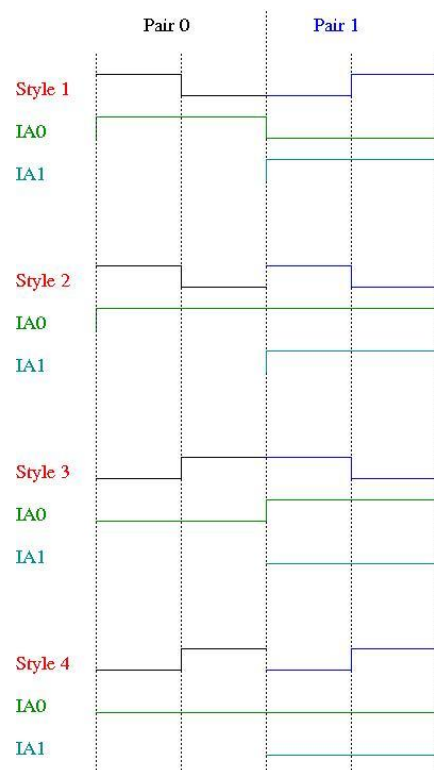
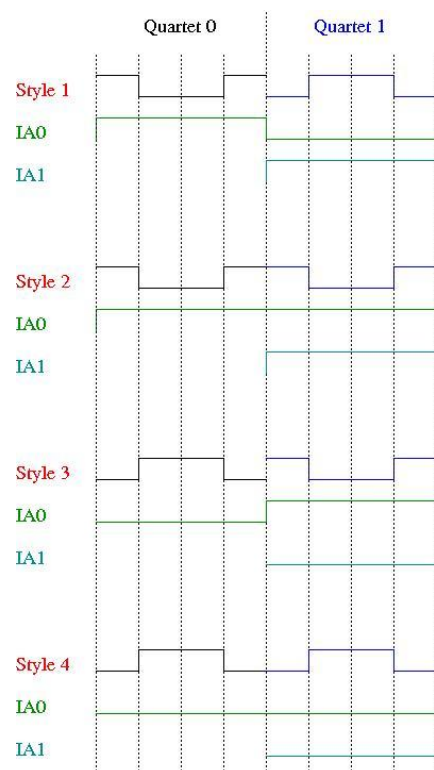

Figure 29: IA control signal IA0 and IA1 with the Pair pattern in relation to the Helicity Flip signal.
Figure 30: IA control signal IA0 and IA1 with the Quartet pattern in relation to the Helicity Flip signal.
To be able to do charge feedback with Intensity Attenuator (IA) and cancel the electro-optical hysteresis of the Pockels Cell, the Helicity Board has two output signals identifying the current and the previous patterns. Figure 29 shows the IA0 and IA1 signals when the Pair pattern is selected. Figure 30 shows the same when the Quartet pattern is selected. Similarly for the Octet pattern.